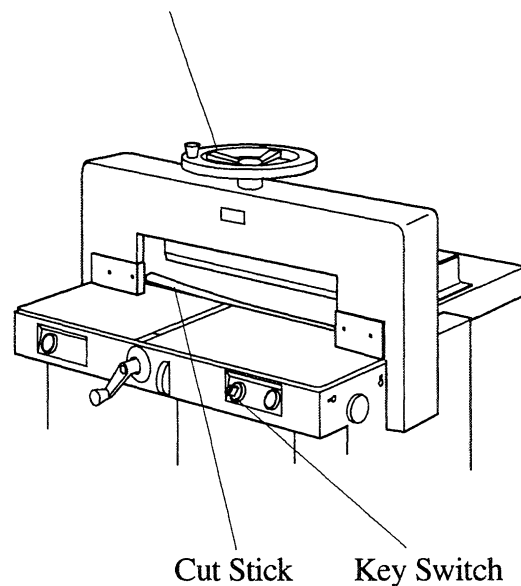

Fig.4-9
- Re-position or replace cut stick.(Fig. 4-9)